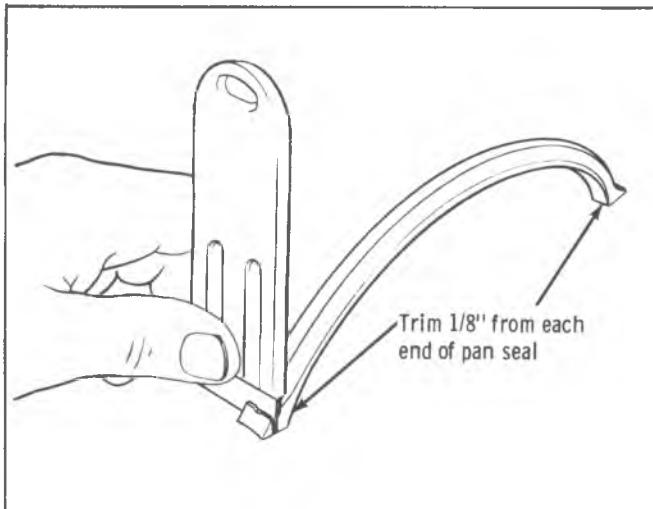

Fig. 6A6-80--Trimming Pan Seal
1. Grind a chamfer on one end of each dowel pin as shown in Fig. 6A6-79.
4. Trim about $1/8"$ (3mm) from each end of new front pan seal, using a sharp tool as shown in Fig. 6A6-80.